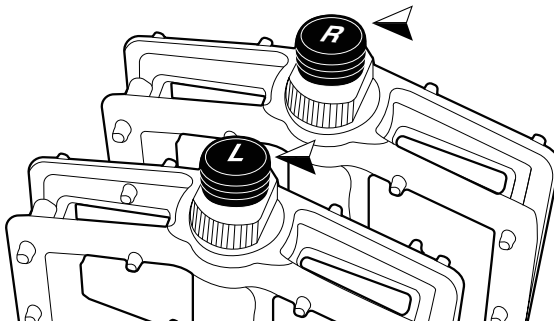

Figure 13. Marked "R" (Right) and "L" (Left)
2. Tighten the right pedal (marked "R" on the pedal, see *Figure 13*) in a clockwise direction on the crank on the drive side.
3. Tighten the left pedal (marked "L" on the pedal, see *Figure 13*) in an anti-clockwise direction on the crank on the left side.